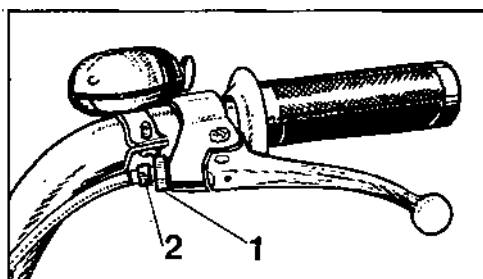

Fig. 14 — Brake adjustment
For routine adjustment of the front and rear brake, use the respective adjusting screws on the handlebars (Fig. 14). First loosen the knurled nut (1) and then screw up or down the adjusting screw (2) to adjust the free travel of the brake lever so that it keeps a distance of 20 to 30 mm from the grip when depressed. After having adjusted the correct brake lever travel retighten the nut (1).